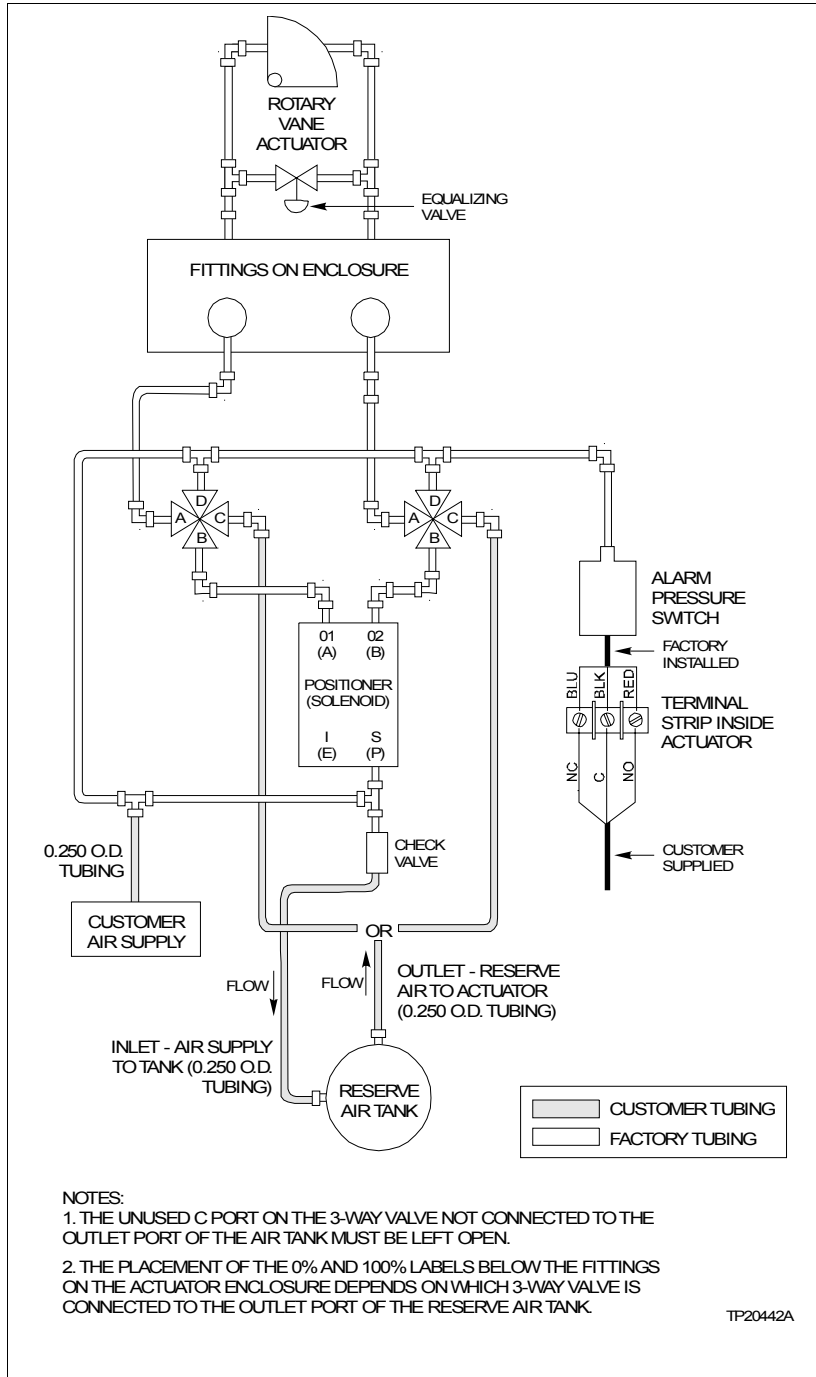

Figure 3-12. Reserve Air Tank Tubing for Type UP2 Actuators
**NOTE:** Refer to Figures 3-12 and B-11
7. Run the wires for the external alarm through one of the holes in the actuator enclosure and connect them as shown in Figure 3-12.